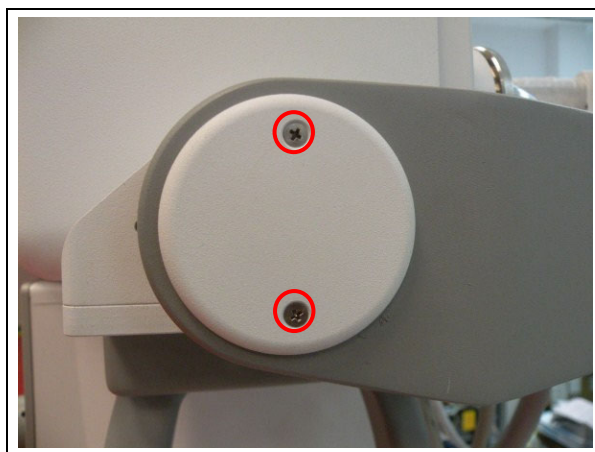

Figure 9
- (3) Remove the side cover of the tube - collimator assembly by unscrewing the two fixation screws as indicated in Figure 9.